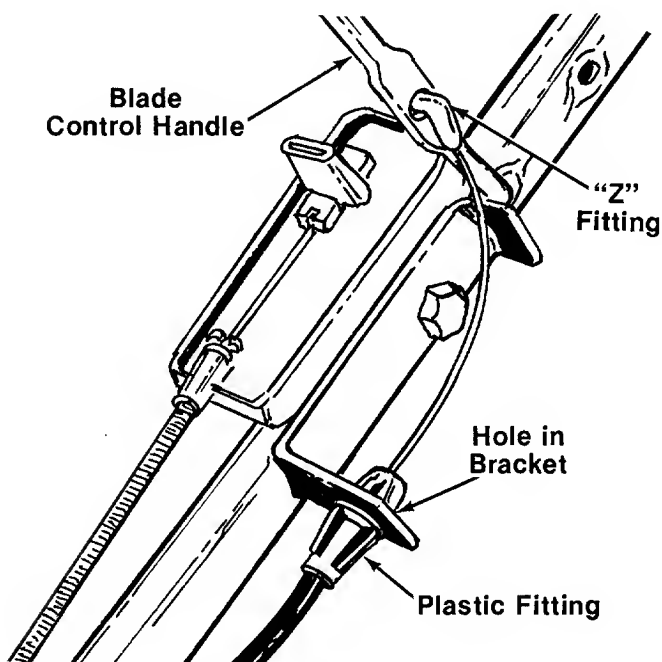

FIGURE 5.
8. Route the brake cable under the lower handle. Place the end of the brake cable into the hole in the bracket as shown in figure 5. Be careful not to bend or kink the cable. Snap the plastic fitting on the end of the cable into the hole in the bracket.
9. Hook the "Z" end of the brake cable into the hole in the blade control handle. See figure 5.